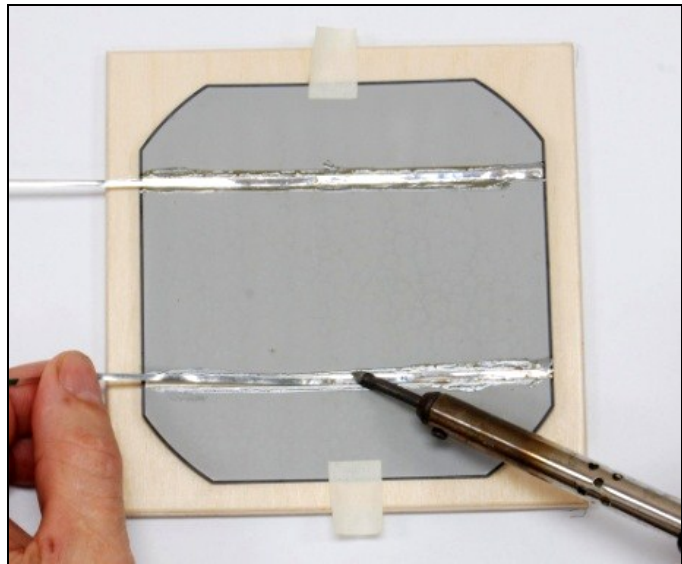

Figure 19
- ✓ Pre-tin your soldering iron with about 3/8” of solder. Gently wipe it across the top of the tabbing wire in one smooth motion (Figure 19). Be careful—don’t push too hard on the cell. If the solder is not melting to the cell, re-tin your soldering iron and apply additional flux if necessary. As you wipe the iron across the cell, gently guide the wire to keep it aligned with the cell’s conductor.